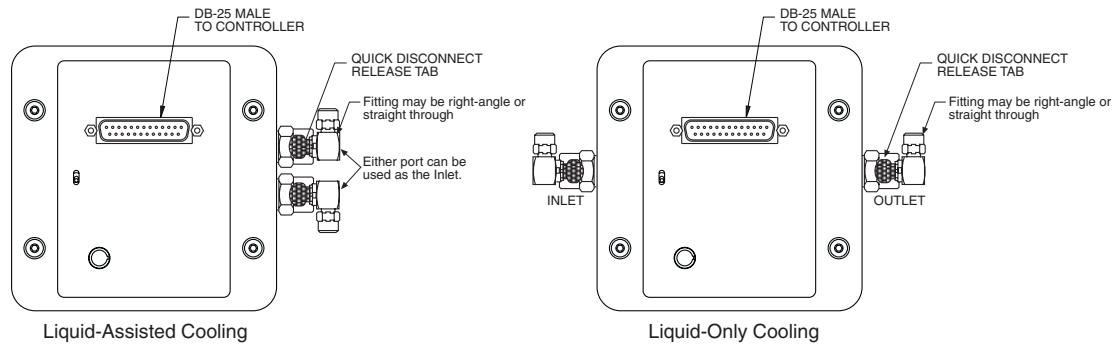

Figure 25. Coolant Ports
*For best cooling, connect the inflow and outflow tubing to the ports as indicated in Figure 25.*
- 6) Because of the automatic shutoffs, disconnecting the coolant supply is done by simply depressing the release tabs (Figure 25) and removing the fittings. Reconnecting the supply is done by reinserting each fitting into the appropriate valve body until you hear a click.
- 3) Because of the automatic shutoffs, disconnecting the coolant supply is done by simply depressing the release tabs (Figure 25) and removing the fittings. Reconnecting the supply is done by reinserting each fitting into the appropriate valve body until you hear a click.